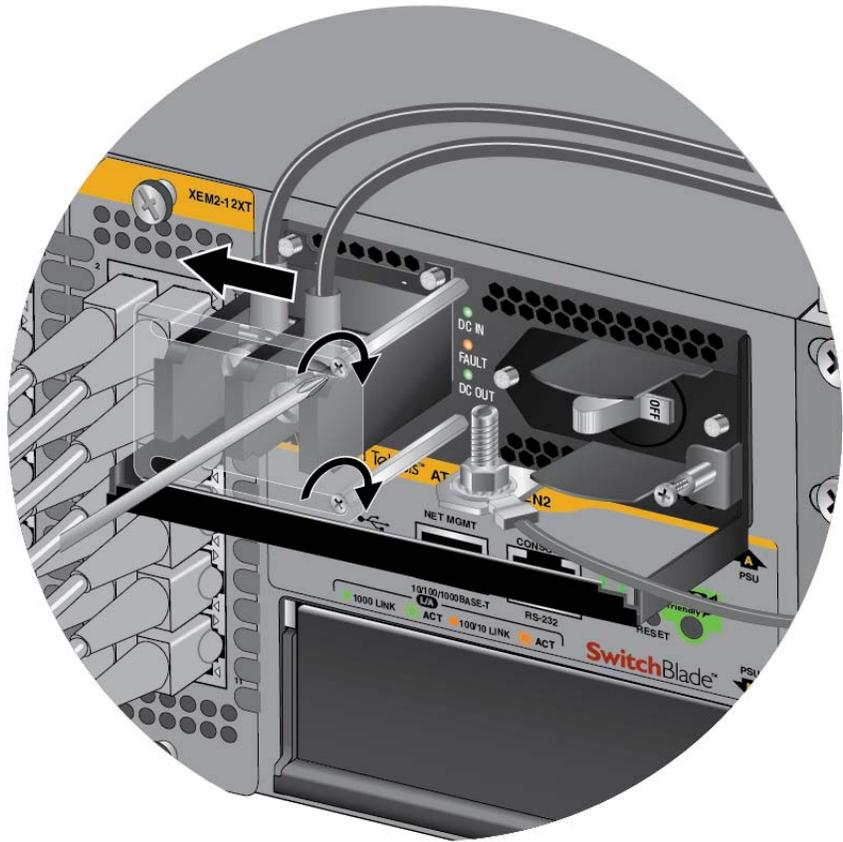

Figure 85. Closing the Plastic Cover over the Terminal Connectors
8. Slide the plastic cover to the left and lightly tighten the two screws with a #1 Phillips-head screwdriver to secure the cover. See Figure 85 on page 137. You might need to lift the locking handle slightly to access the bottom screw.
- Slide the plastic cover to the left and lightly tighten the two screws with a #1 Phillips-head screwdriver to secure the cover. See Figure 85 on page 137. You might need to lift the locking handle slightly to access the bottom screw.